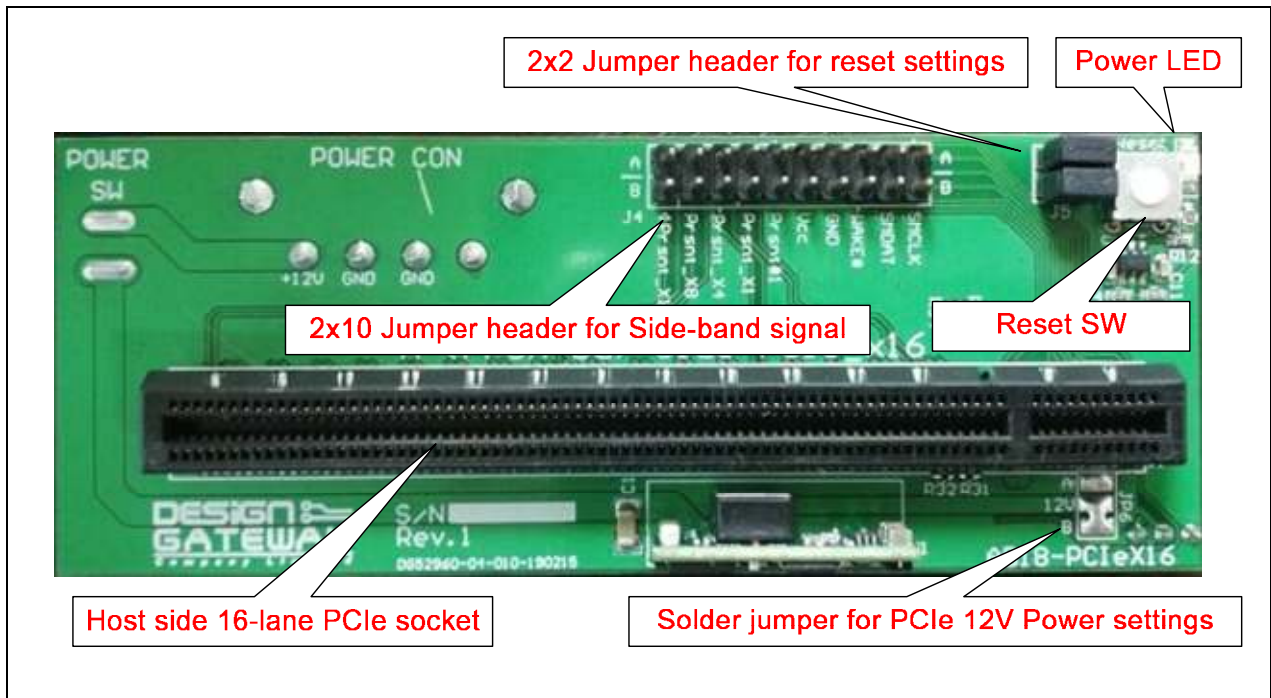

Figure-1: Board host (A) side
Following figure-1 and 2 shows host (A) side and device (B) side respectively.